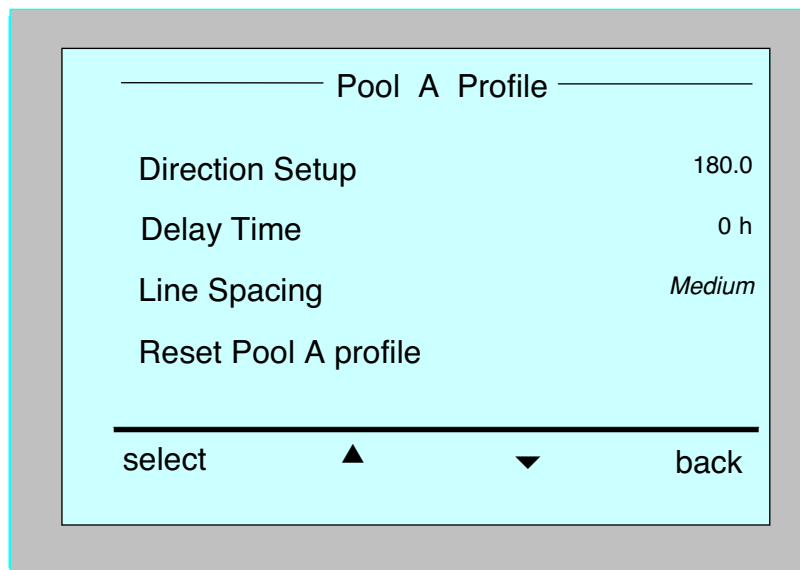

Figure 13: Second pool profile screen
10. After setting the *Scanning Path*, from the Pool Profile screen, scroll down to the next screen to "Direction Setup" (Figure 13).